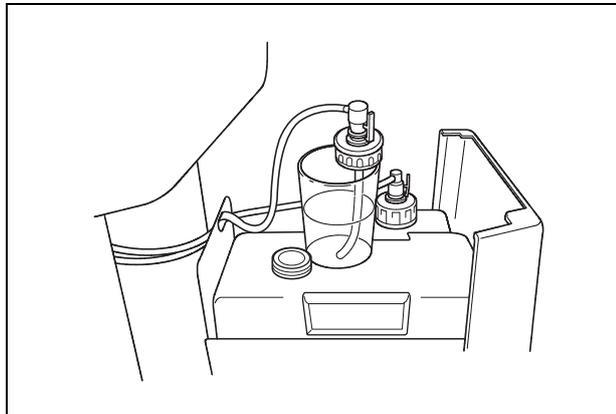

Figure 7.90
8. Put the cap in the container filled with the sterile water (see Figure 7.90).
12. Put the detached cap in the container of the disinfectant solution (see Figure 7.90).
18. Put the cap in the container filled with the sterile water (see Figure 7.90).